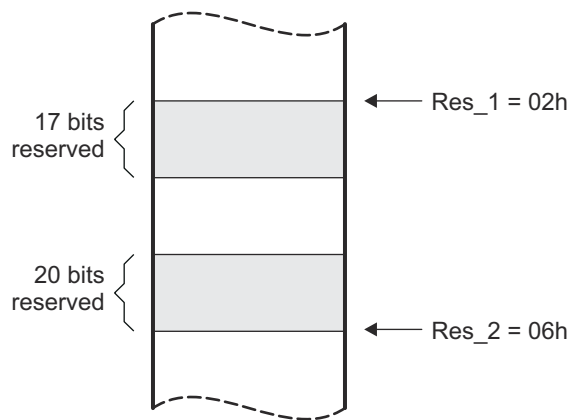

Figure 5-4. The .space and .bes Directives
- **Figure 5-4** shows how the **.space** and **.bes** directives work for the following assembled code: